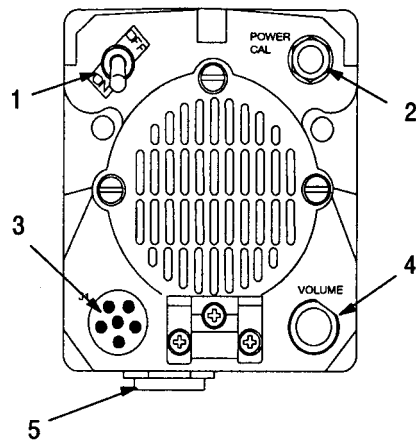
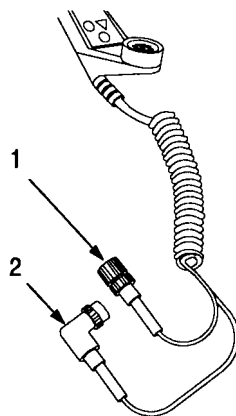
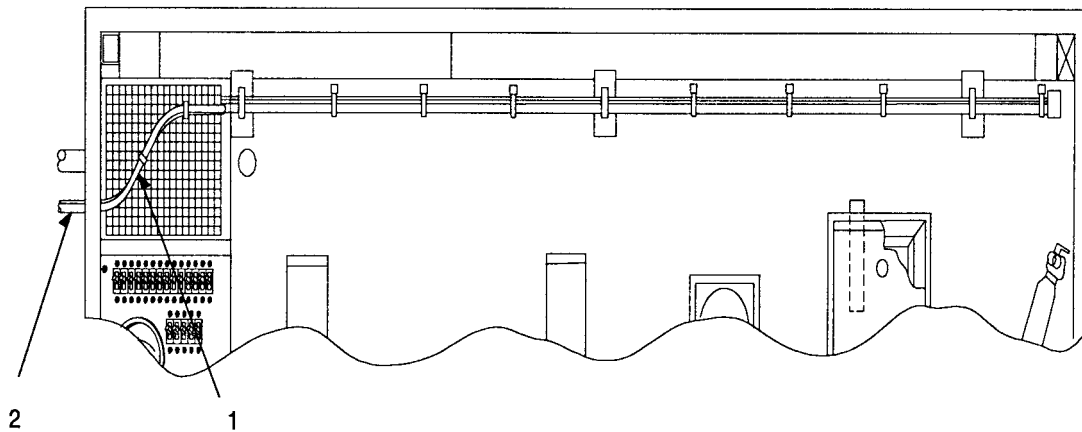

Figure 1-9. LS-671 Loudspeaker Controls
Figure 1-13. HRCRD Cable Connections
Figure 1-15. RRA Cable Routing
- a. LS-671 Loudspeakers (figure 1-9).
- (1) Power Switch (1). Turns loudspeaker on and off. Activates power indicator lamp (2) when set to ON position.
- (2) Handset Connector J2 (3). Connects handset or HRCRD.
- (3) POWER CAL Indicator Lamp (2). Lights when power switch (1) is set to ON position.
- (4) VOLUME Control Knob (4). Adjusts volume level of loudspeaker or handset (if connected). To adjust volume level of handset, turn knob clockwise to increase volume or counterclockwise to decrease volume. To adjust volume level of loudspeaker, pull and turn knob clockwise to increase volume or counterclockwise to decrease volume.
- (5) Connector J1 (5). Connects to radio mounting base with cable marked SPEAKER supplied with system.
- (c) The HRCRD audio cable (1, figure 1-13) is connected to handset connector J2 on loudspeaker (3, figure 1-9). The HRCRD signal cable (2, figure 1-13) is connected to cable marked HRCRD.
- (c) The two cables marked SPEAKER and cable marked HRCRD (1, figure 1-15) are routed through hole in shelter rear wall (2) and reconnected to RRA. If disconnected, HRCRD audio cable (1, figure 1-13) is connected to handset connector J2 on loudspeaker.
- (b) Both loudspeakers must be activated by setting the power switch (1, figure 1-9) to ON position. The volume of each speaker can be adjusted using VOLUME control knob (4, figure 1-9) on each speaker.